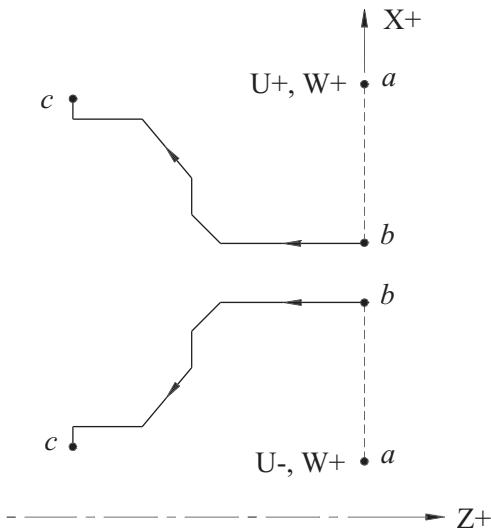

Figure 41
7. Figure 41 illustrates that if the allowance for finishing is located on the positive side (in the direction of the  $X$  and  $Z$  axes), with respect to the programmed contour, no sign is used; if on the negative side, the negative sign ( $-$ ) is used.